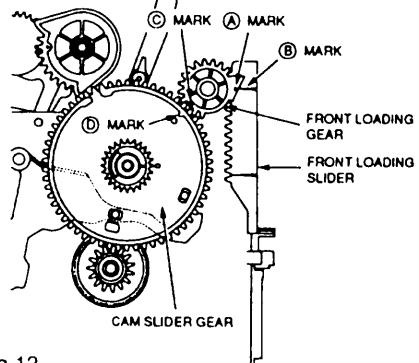

Fig 12.
- Attach the FRONT LOADING GEAR so that the (A) mark on the FRONT LOADING GEAR aligns with the (B) mark on the FRONT LOADING SLIDER and that the (C) mark on the FRONT LOADING GEAR aligns with the (D) mark on the CAM SLIDER GEAR as shown in Fig 12.